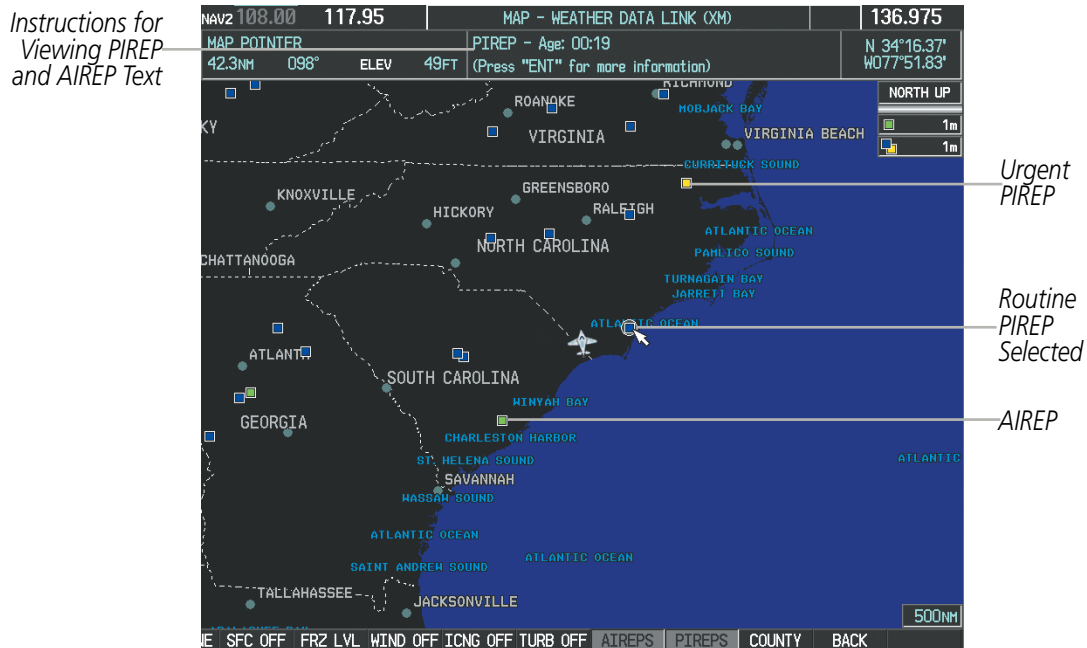

Figure 6-46 AIREPs and PIREPs on the Weather Data Link (XM) Page
Pilot Weather Reports (PIREPs) (Figure 6-46) are in-flight weather observations collected from pilots. When significant weather conditions are reported or forecast, Air Traffic Control (ATC) facilities are required to solicit PIREPs. A PIREP may contain adverse weather conditions, such as low in-flight visibility, icing conditions, wind shear, and turbulence. PIREPs are issued as either Routine (UA) or Urgent (UUA).